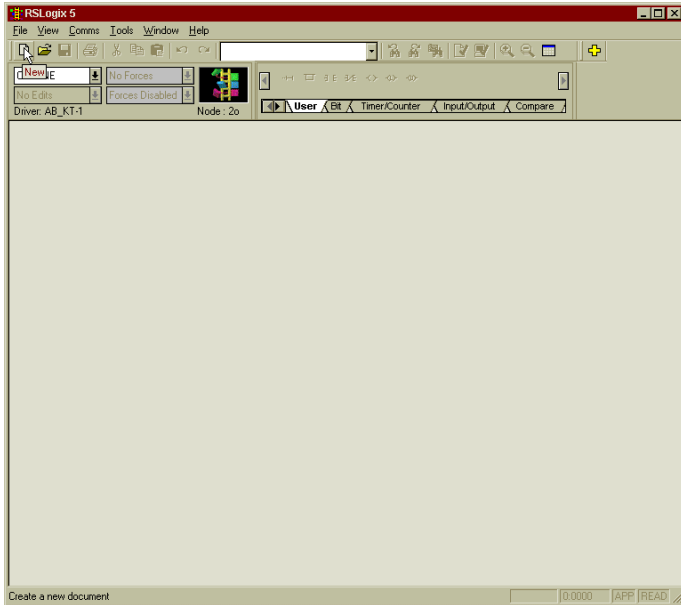
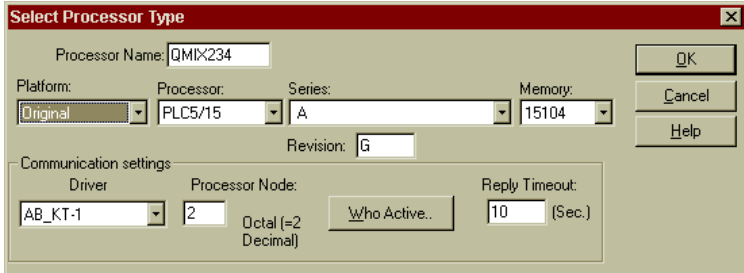

FIG. 4-7 SELECTING A NEW PROJECT
FIG. 4-8 SELECTING PROCESSING TYPE/NAME
- Step 1. Click on the File pull down menu, and select New or click on the New Icon on the Tool Bar. (See Fig. 4-7) The Select Processor Type display appears. (See Fig. 4-8)